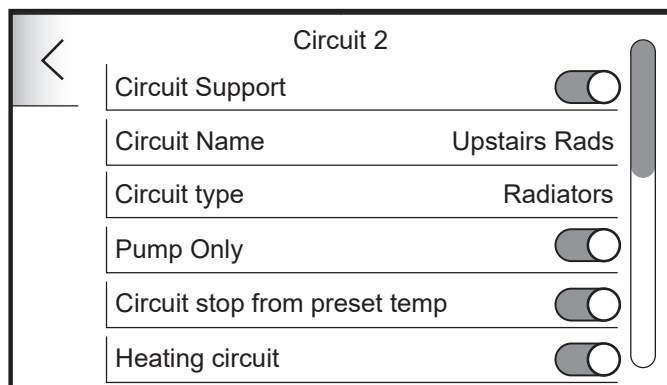

Figure 7-15: Edit Circuit 2 settings
circuit settings. Refer to Figure 7-15.
4. Swiping the touchscreen display scroll down to 'CIRCUIT STOP FROM PRESET TEMP'. Tap the icon to switch on. (Refer to Figure 7-15).
'PUMP ONLY' must be enabled. Refer to Figure 7-15.